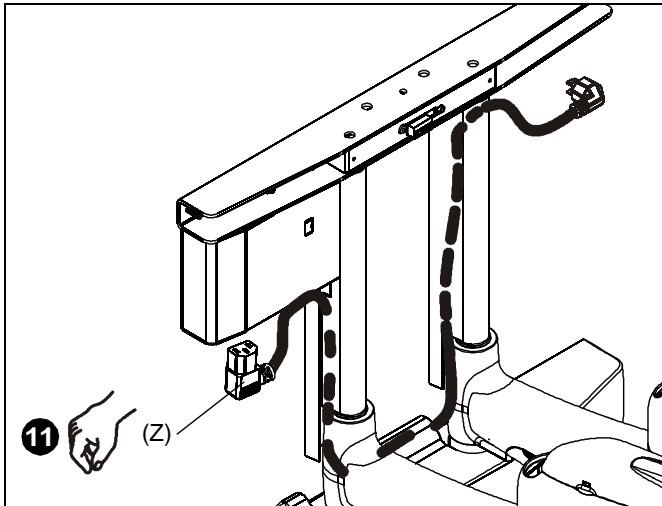

Figure 8
11. Connect and route power cord (Z) through PXR cable management areas. (See Figure 8)